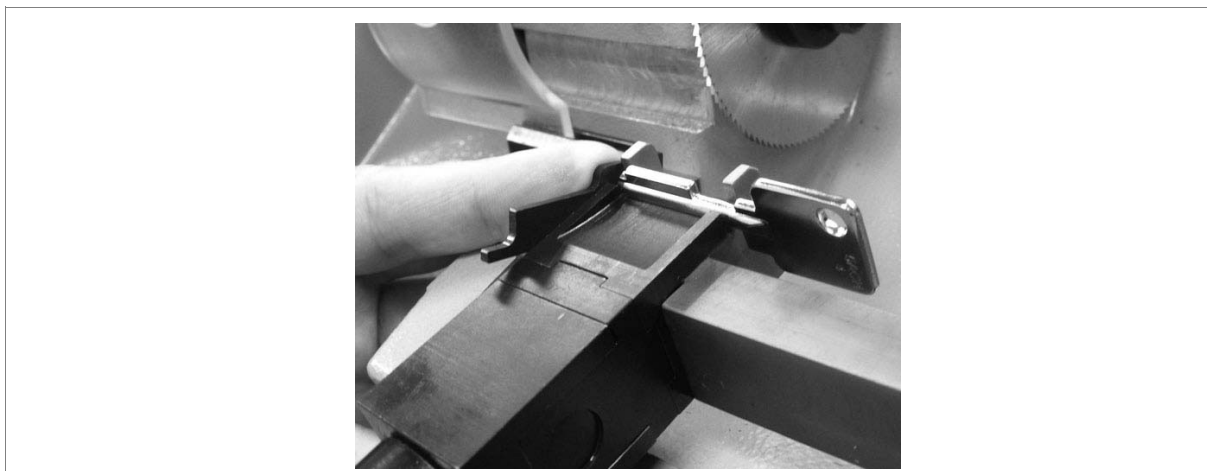

Fig. 61
- the reference for the key relates to the tip, up against the tracer point (original key) and up against the cutter (key blank), or use the stop bar up against the external left-hand side of the clamp (fig. 61).